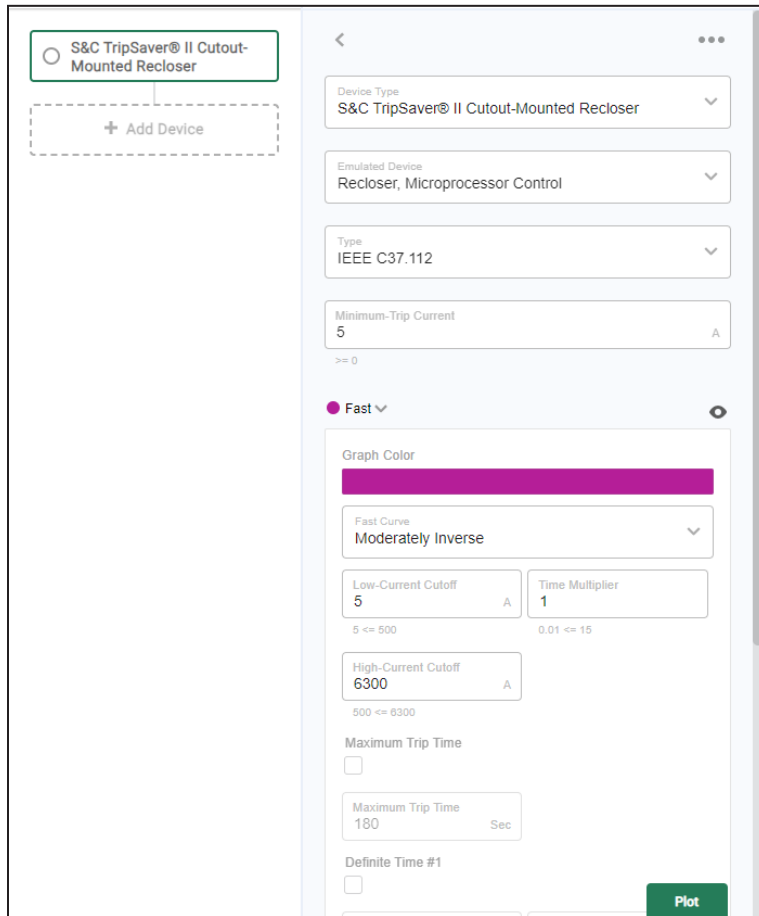

Figure 20. The Fast curve configuration settings.
STEP 2. Select the appropriate Fast and Slow TCC Curve parameters. See Figure 20.